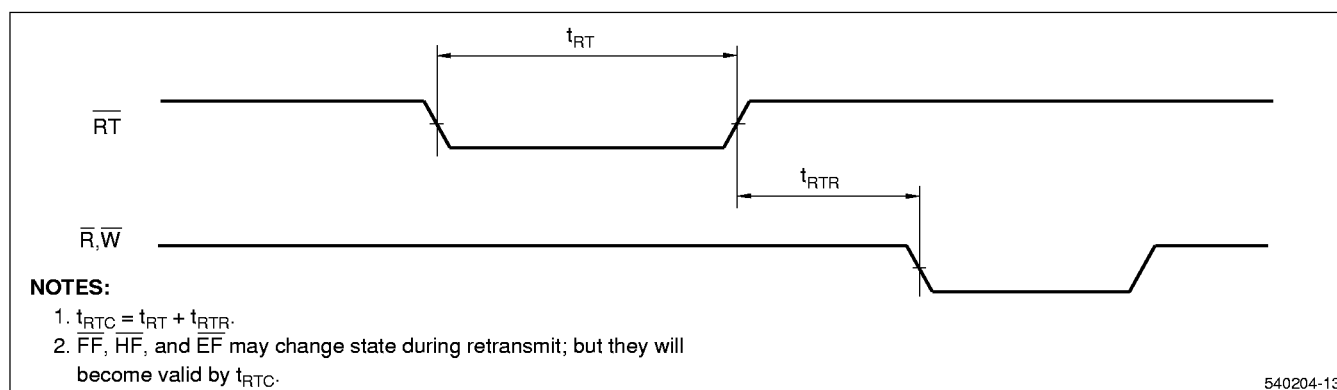

Figure 19. Retransmit Timing
5. See also Note 2, Figure 19.